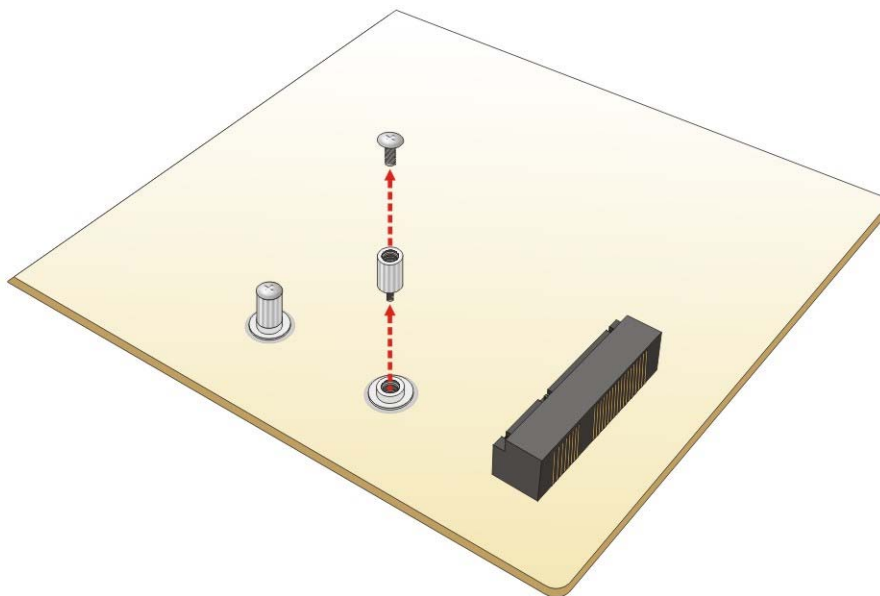

Figure 4-7: Removing the Retention Screw and Standoff for a Half-size PCIe Mini Card
Step 2: Remove the retention screw and standoff for a half-size PCIe Mini card. To avoid interference of the board circuit, remove the retention screw and standoff for a half-size PCIe Mini card as shown in **Figure 4-7**.